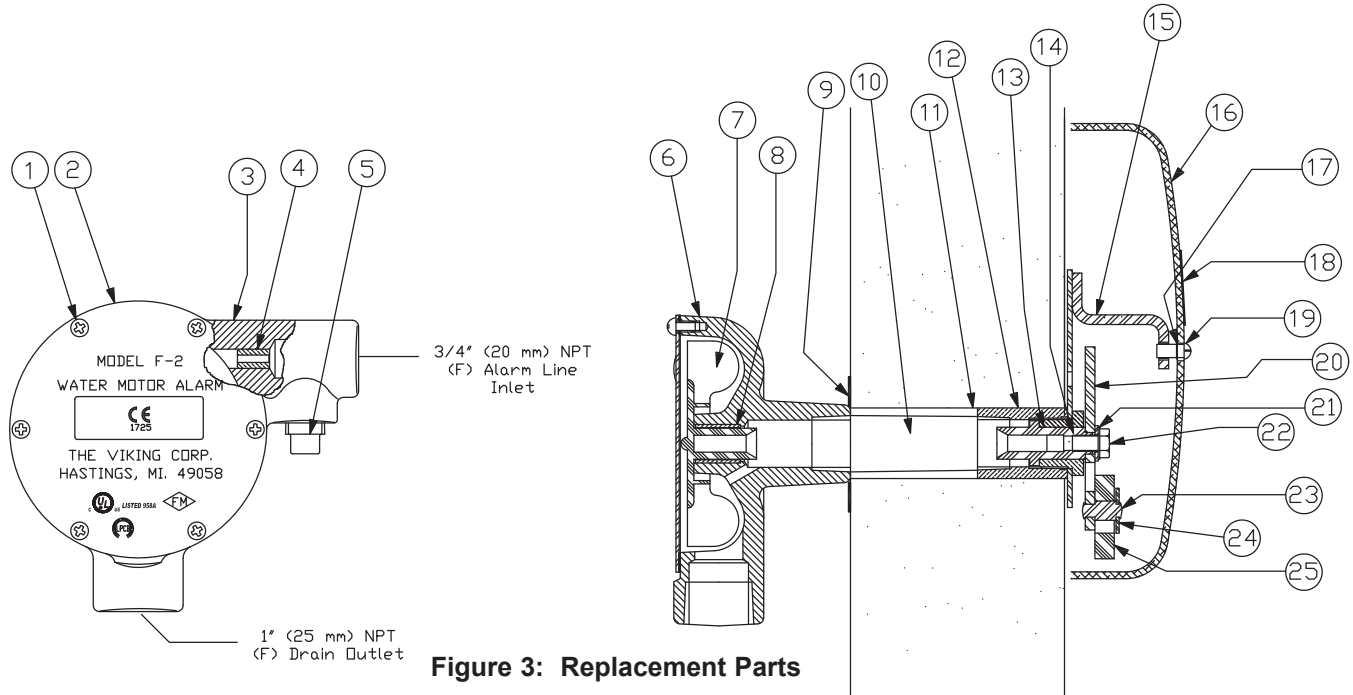

Figure 3: Replacement Parts
Material Standards (See Figure 3)
5. OPERATION (See Figure 3)
A. Water Motor Disassembly (See Figure 3)
2. Remove pipe plug (5).
3. Remove all round head machine screws (1) from the water motor cover.
4. Separate the cover (2) and the gasket (6) from the housing (3).
5. Remove the impeller (7).
6. Inspect and, if necessary, carefully clean the nozzle (4) with a wire or pipe cleaner brush.